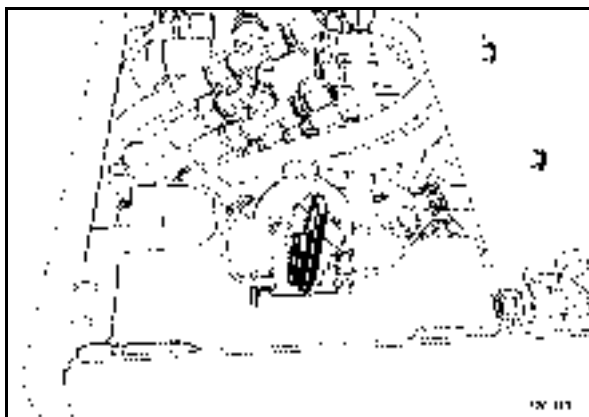

Fig. 71
- Switch off and pull out main battery switch 1 (Fig. 71).
If the power pack of the remote control is to be recharged via the remote control cable, the main battery switch (Fig. 71) must be switched on.